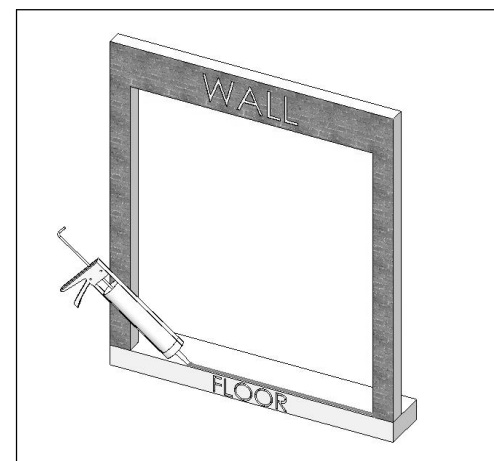

FIGURE 2
**2-** Clean the bottom of the door opening and check for level using of at least a 4' length level. **Caulking will not stick to dusty or moist surfaces.**(FIGURE 2)
**3-** If floor is at level, apply two beads, 1/4" of high quality caulk on the floor where the unit will be installed. (FIGURE 2)